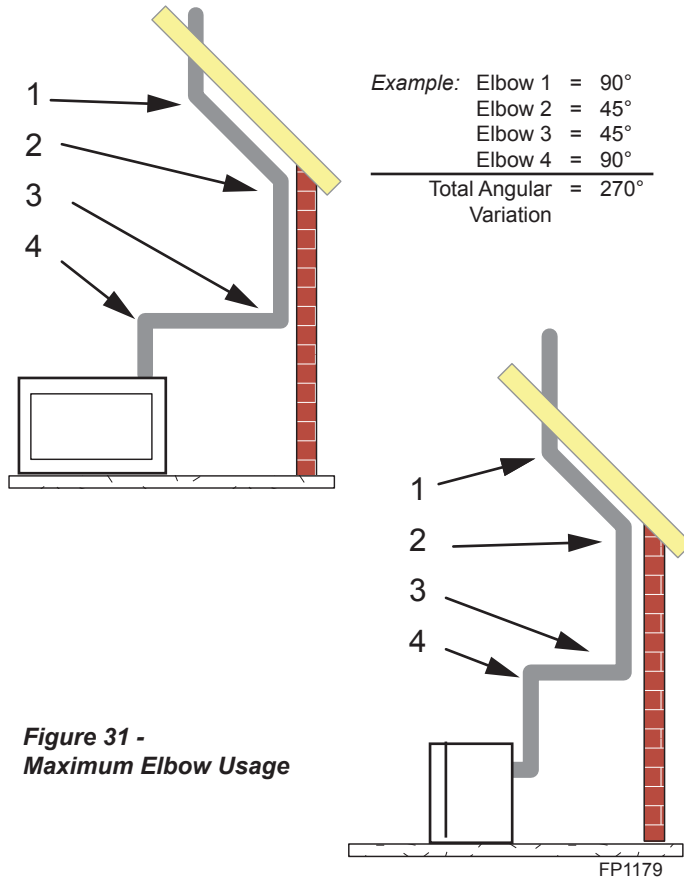

Figure 31 - Maximum Elbow Usage
- Two sets of 45°elbows offsets may be used within the vertical sections. From 0 to a maximum of 8' (2.5 m) of vent pipe can be used between elbows. *Figure 31*
- The maximum angular variation allowed in the system is 270°. *Figure 31*